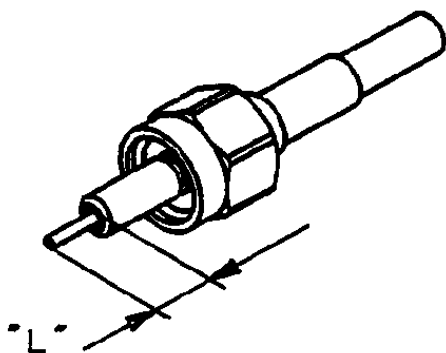

FIGURE 3
| 2. Insertion tool | pn. 501215-1 | (see fig. 3 / 408-9342) |
1. Clamp fibre firmly in insertion tool pn. 501215-1 (see fig. 3)
3. The plastic fibre is protruding at mating side of the connector (see fig. 3)